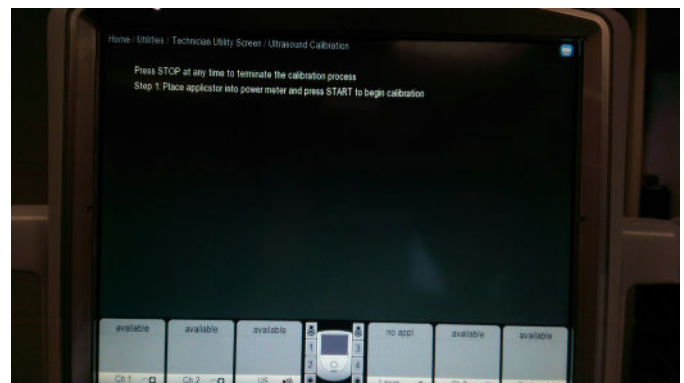

FIGURE 3
4. Press the Head Size Button until the size applicator being calibrated is displayed. See Figure 3.
5. Press the Start Button, refer to Figure 3. Follow the instructions displayed on the Therapy System.